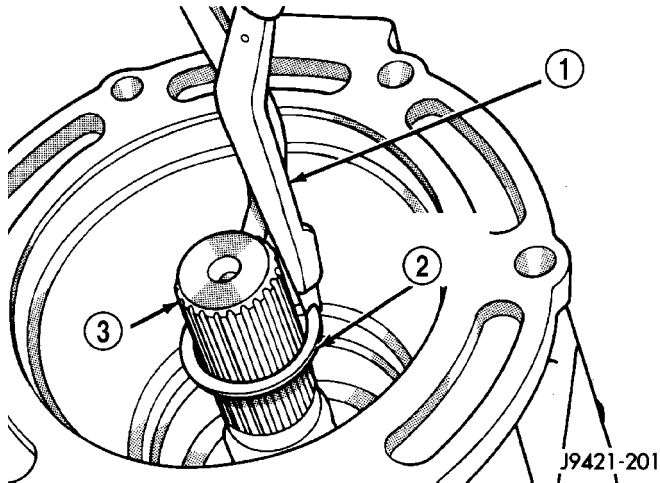

Fig. 102 REAR BEARING SNAP RING - 4WD
(9) Install rear bearing snap ring on output shaft (Fig. 102).